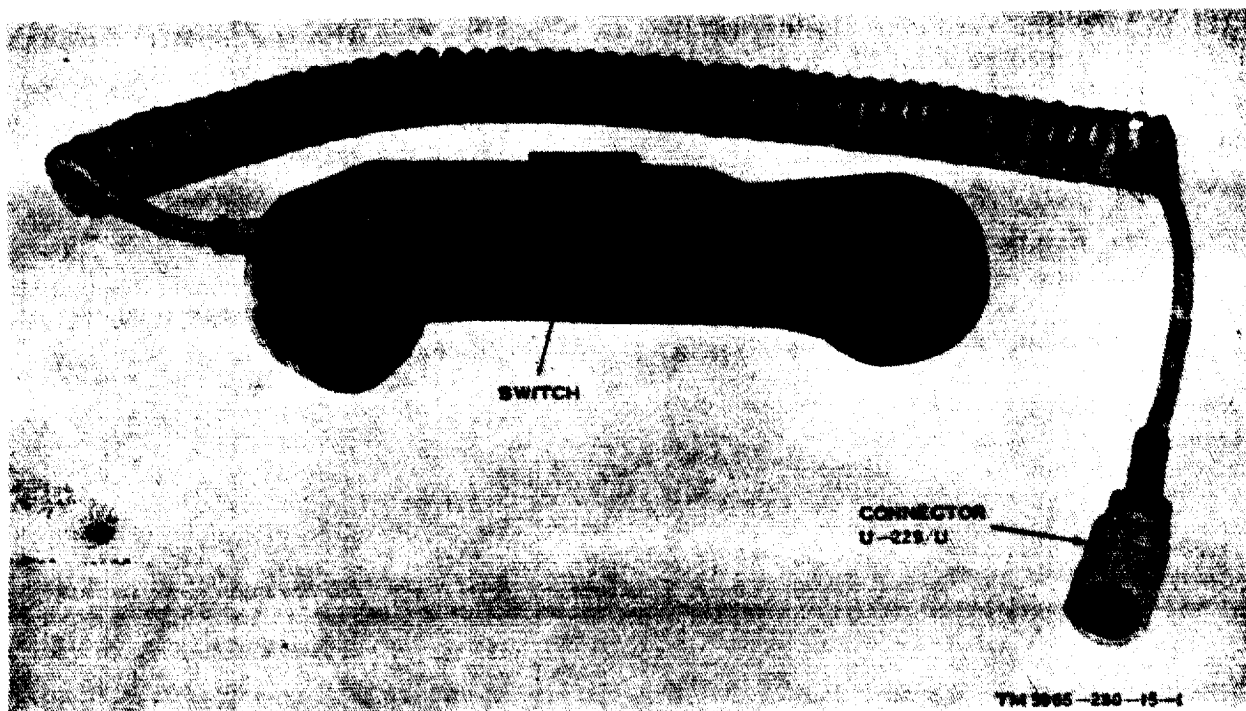

Figure 1. Handset H-189/GR.
This manual describes Handset H-189/GR (fig. 1). It includes maintenance allocation (app C), maintenance instructions, and a list of repair parts available to organizational, direct support, general support, and depot personnel (app D).
(fig. 1)
7. Connecting and Using H-189/GR (fig. 1)